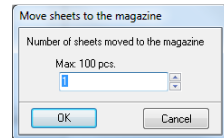

Fig. 58 – moving sheets to the magazine
-  **Move to the magazine** - works analogically to the previous function but moves a given number of chosen sheets from the current project to the magazine (Fig. 58).